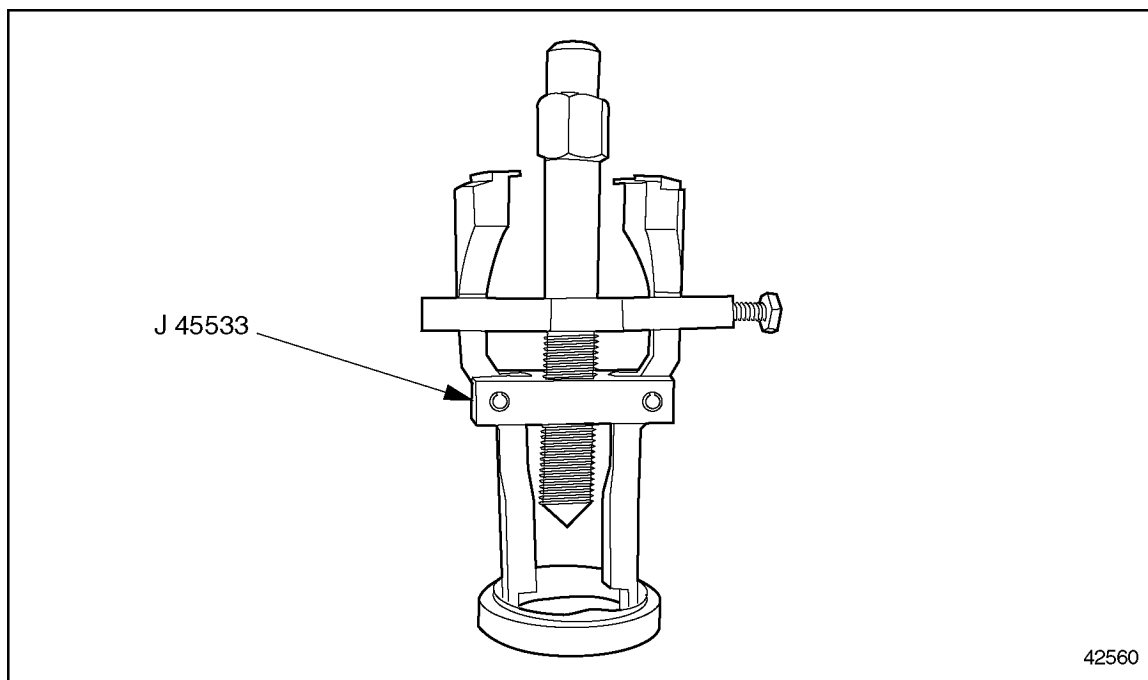

Figure 1-389b J 45533 Invert Puller Bolt
- [a] Invert puller bolt. See Figure 1-389b